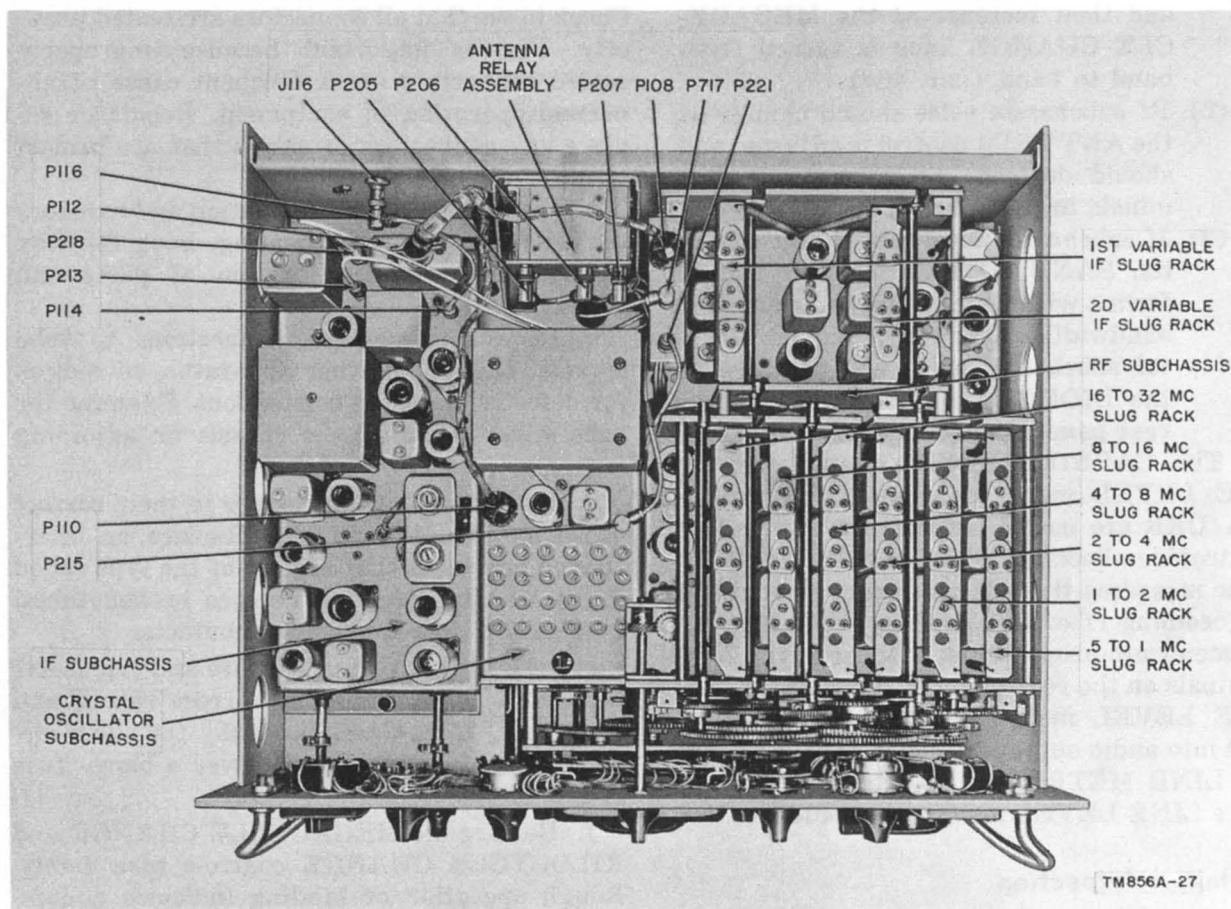

Figure 56. Radio Receiver R-390A/URR, top view.
- (1) Set the frequency-indicator reading so that the first two digits are zeros and the last three digits read an even 100 kc or a multiple thereof between 500 and 900.
- (2) Set the FUNCTION switch to CAL.
- (3) Advance the RF GAIN control until a reading is obtained on the CARRIER LEVEL meter.
- (4) Raise the .5- to 1-mc slug rack (fig. 56) slightly with the hand; the CARRIER LEVEL meter reading should decrease.
- (5) Press down lightly on the .5- to 1-mc slug rack (fig. 56) slightly with the hand; the meter reading should decrease. If the reading increases when the slug rack is either raised or depressed, the camshaft is out of synchronization or electrical alignment is required.
(fig. 56), setting the megacycle numbers on the frequency-indicator dial at a reading within the band covered by the slug rack being checked.